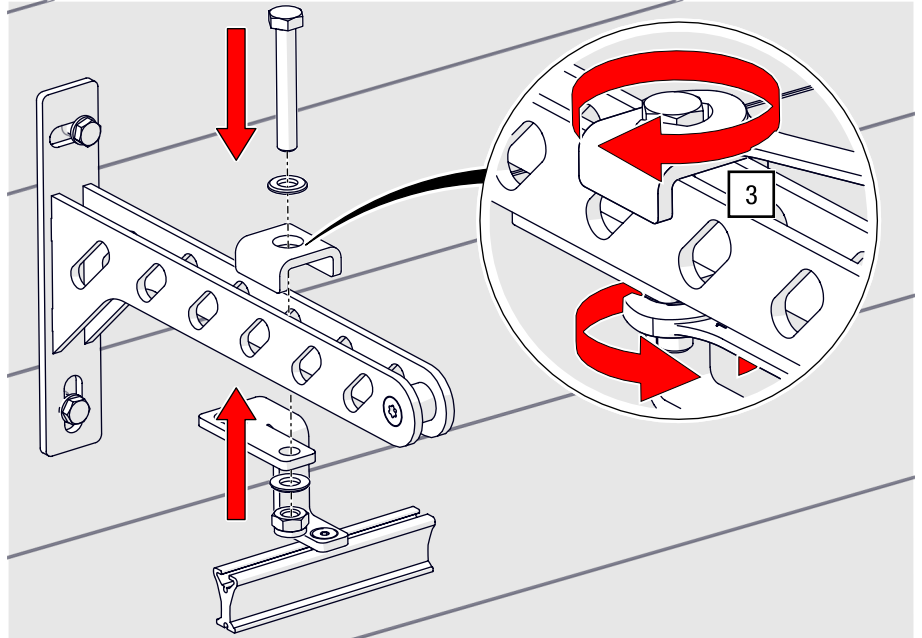

Fig. 42: Screwing the wall mount bracket to the suspension for cord guides
3. Place the U-plate with the open side facing downwards onto the wall mount bracket and screw it to the suspension for cord guides using two open-end wrenches AF 13 (see Fig. 42).